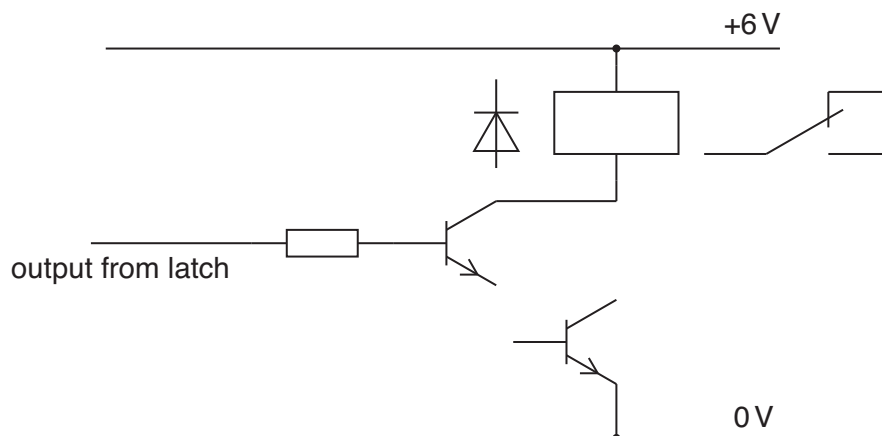

Fig. 13
- (iii) Complete Fig. 13 to show the operating circuit for the relay coil.